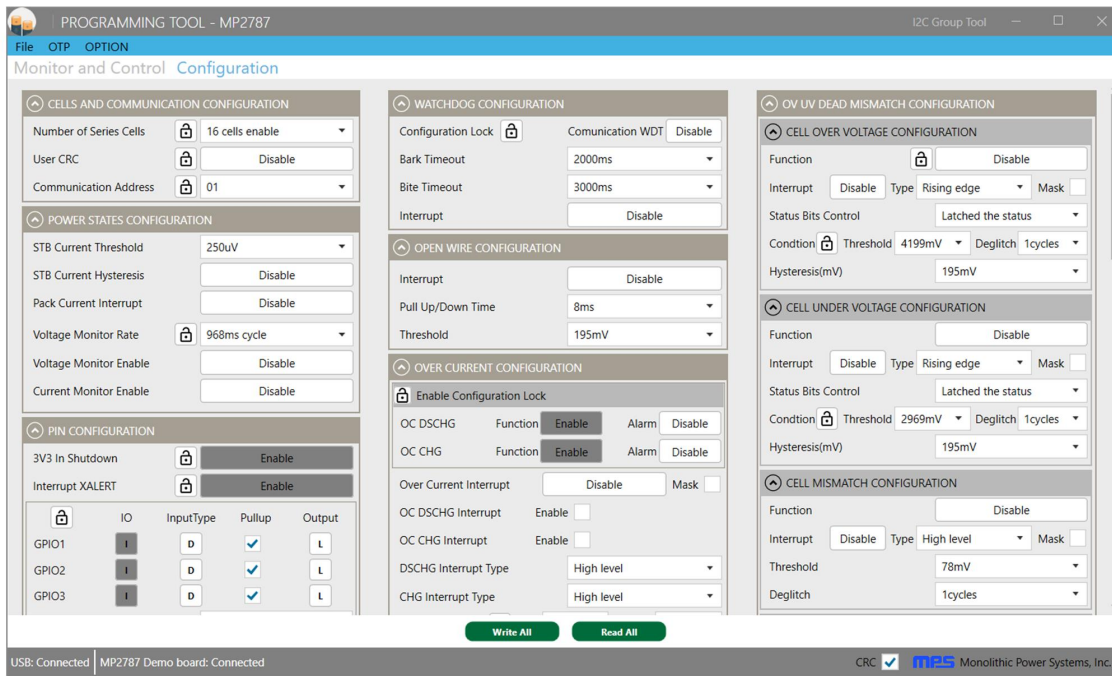

Figure 9: Configuration View
1. Click the “Configuration” tab to view the configurations (see Figure 9). The software should automatically read all configurations. Items with a lock symbol can be configured as read-only.